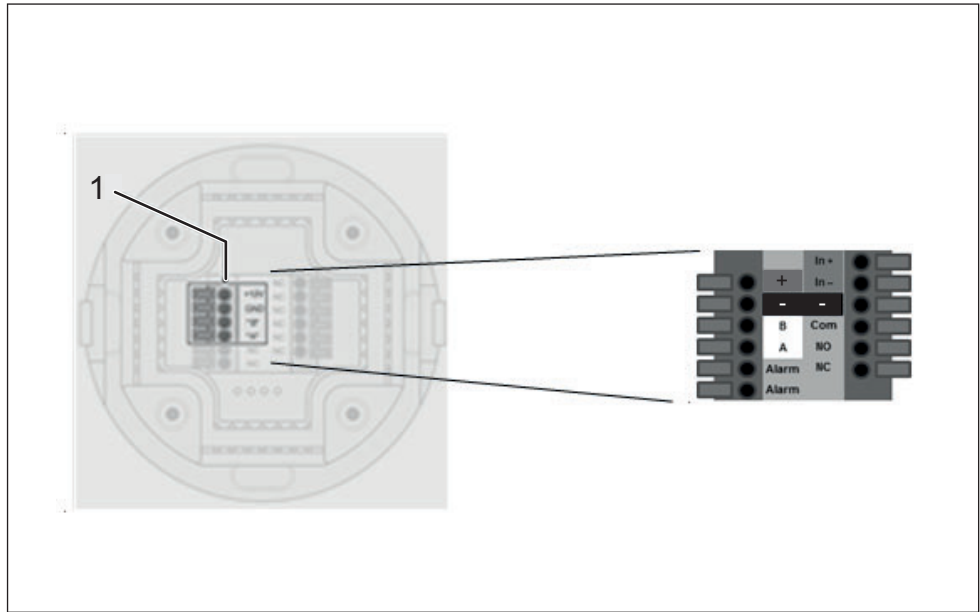

Fig. 10: Terminal clamps on the rear
3. Connect the connection leads to the clips (fig. 10/1) of the reader.